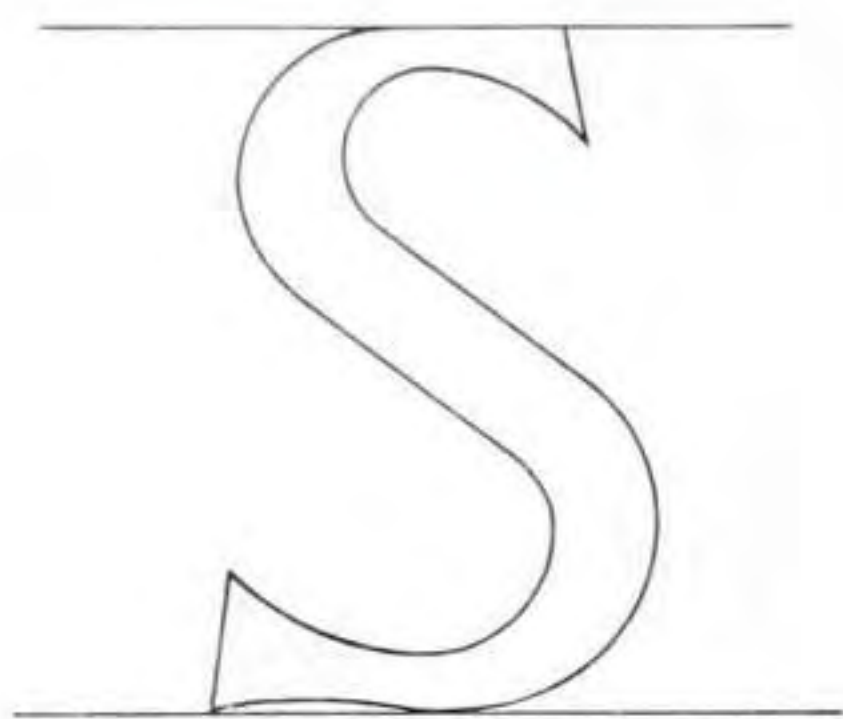

Fig 8.76 Layout for S. Letter height for exercise : 50mm.
- 1 Draw out the cap and base lines and the letter (see Fig 8.76). Remember that raised letters need to be a bit bolder than incised ones. Look at the serifs and the weak grain, and put a ring around these points with a different coloured pencil.